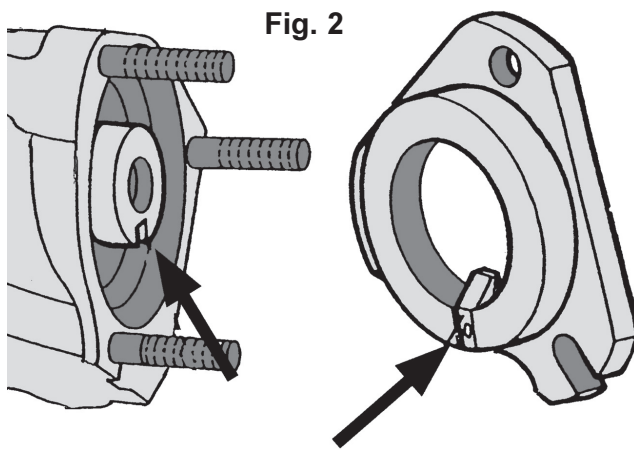

Fig. 2
4.1 VS1402/01 Camshaft Setting Plate Set (Fig. 2)
Remove covers at the rear of camshafts. Slide Plates over studs and locate onto each camshaft ensuring the key on the Plate fits into the slot in the camshaft (fig.2). Secure in place with cover nuts.